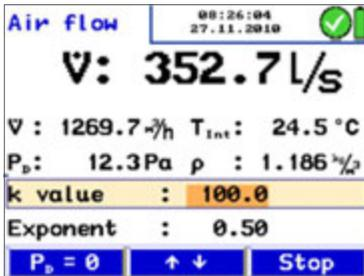

Fig. 34: Menu "Airflow (k value)"
- Select K value, see Fig. 34: Menu "Airflow (k value)"
Press $P_D = 0$ (menu bar, see Fig. 34: Menu "Air-flow (k value)") to zero the pressure sensor.